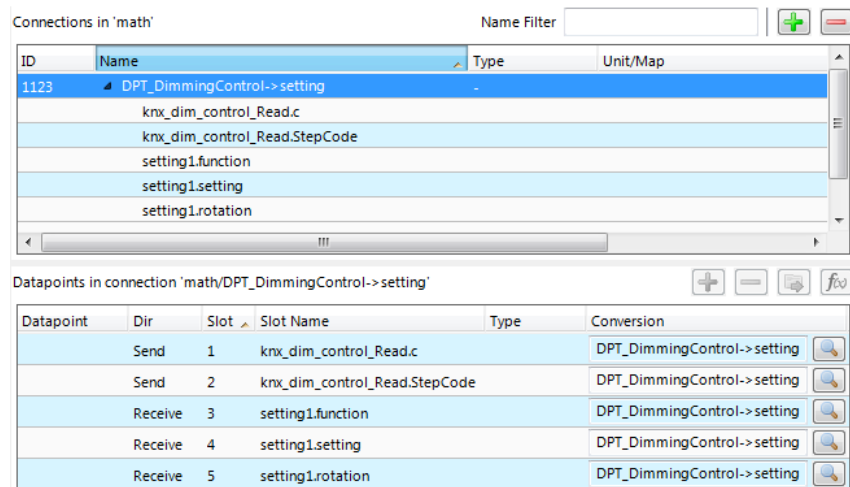

Figure 53: Created new multi-slot connection from math adaptor.
3. In the dialog **Select Multi-Slot Math Adaptor** select an existing adaptor and click **Select**. A new multi-slot connection is added to the connection list with empty slots as depicted in Figure 53.